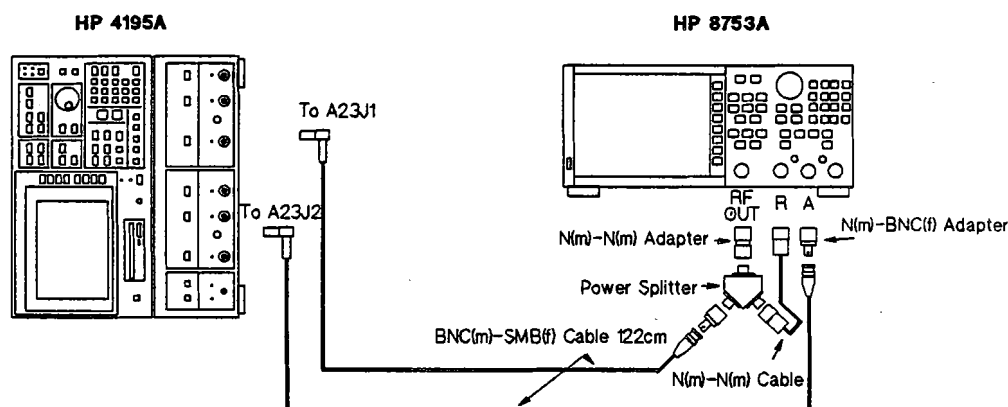
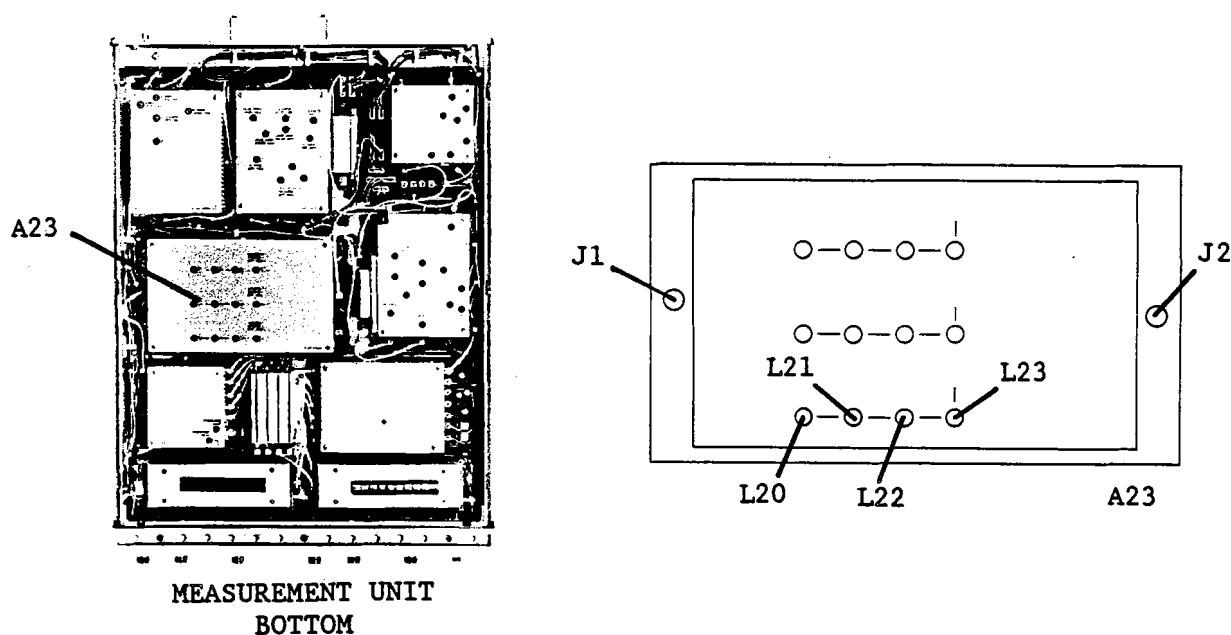
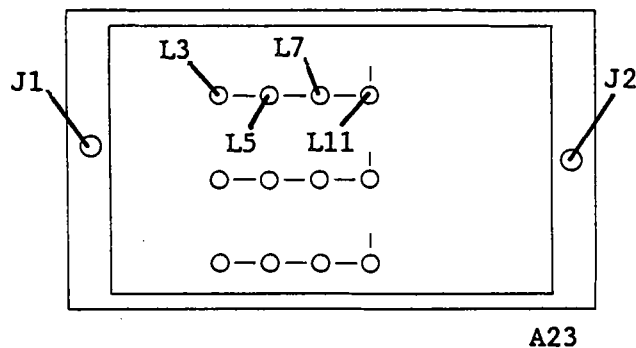

Figure 3-54. Receiver Input Filter Adjustment Setup
Figure 3-55. 150-225 MHz Voltage Tuned BPF Adjustment Locations
Figure 3-58. 225-340 MHz Voltage Tuned BPF Adjustment Locations
9. Connect the equipment as shown in Figure 3-54. See Figure 3-55 for A23J1 and J2 locations.
9. Connect the equipment as shown in Figure 3-54. See Figure 3-58 for A23J1 and J2 locations.